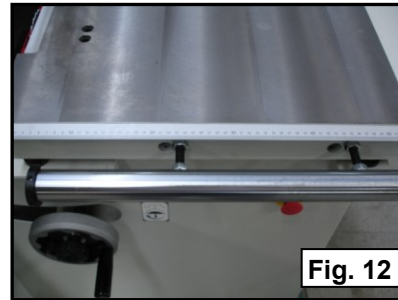

Fig. 12
4. Insert the studs into the table (Fig. 12) Tighten with an M12-1.75 hex nut, lock washer and a flat washer on each stud.